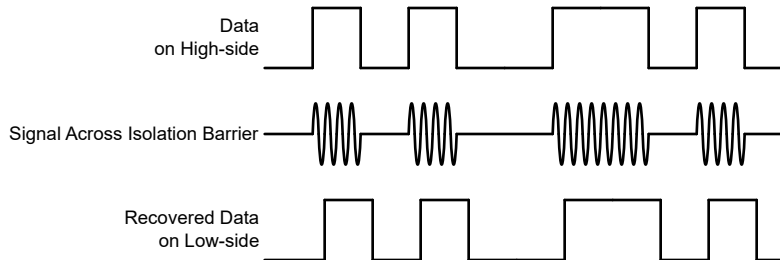

Figure 6-4. OOK-Based Modulation Scheme
The AMC23C14 uses an on-off keying (OOK) modulation scheme, as shown in Figure 6-4, to transmit the comparator output states across the SiO₂-based isolation barrier. The transmit driver (TX) shown in the Functional Block Diagram transmits an internally-generated, high-frequency carrier across the isolation barrier to represent a digital *one* and does not send a signal to represent a digital *zero*.